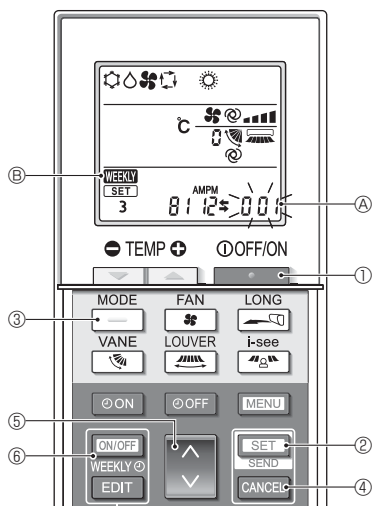

Fig. 5-12
5.12.8. How to disable Auto mode operation (Fig. 5-12)
1. Press the **STOP** button ① to stop the air conditioner.
- If the weekly timer is enabled, press the **ON/OFF WEEKLY** button ⑨ to disable the timer. (**WEEKLY** ⑨ disappears.)
2. Press the **SET** button ② for 5 seconds.
- The unit enters the function setting mode. (The group model setting number ④ blinks.)
3. Press the **UP** button ⑤.
4. Completing the settings (Fig. 5-12)
- Press the **SET** button ② for 5 seconds.